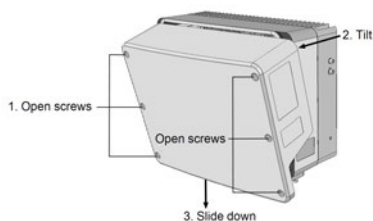

Figure 24: Removing the inverter cover
5. Open the inverter cover (see *Figure 24*).